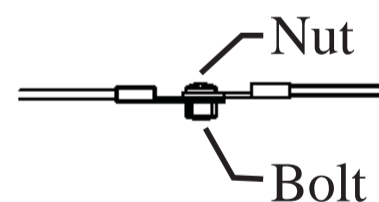

Figure 6 - Hardware Install
2. Connect the (2) ring terminals to the mating Juice harness terminals using the supplied hardware. Yellow to Yellow. Red to Red. (Figure 6)